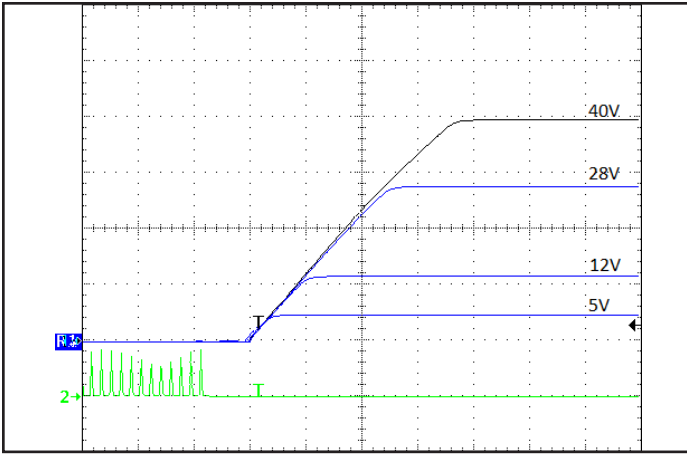

Figure 7: Turn-on transient at 28V input; full load (10ms/div). Top Traces:  $V_{out}$  (10V/div). Bottom Trace: ON/OFF input (5V/div)
**REMOTE ON/OFF:** Only Negative On/Off logic is available in the converter series: logic high at the input turns the converter Off while a logic low turns in On. Timing of this is shown in Figures 7, 8. A high level can be driven to any voltage between 1.5V and 3.3V, or simply left floating as the unit contains an internal 25KΩ pull-up to 5.0V. The pin can be pulled low (to Vsense-) by an optocoupler, an open-source/drain transistor or wired permanently to Vsense-. To provide noise immunity the input has 0.3V of hysteresis.